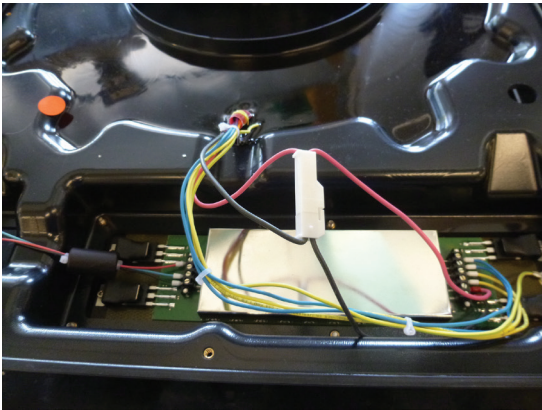

Fig. 9: Short circuit the secondary winding
- o Short-circuit the secondary winding of the transducer by engaging the two one pin connectors on the leads to the measuring head (fig. 9).